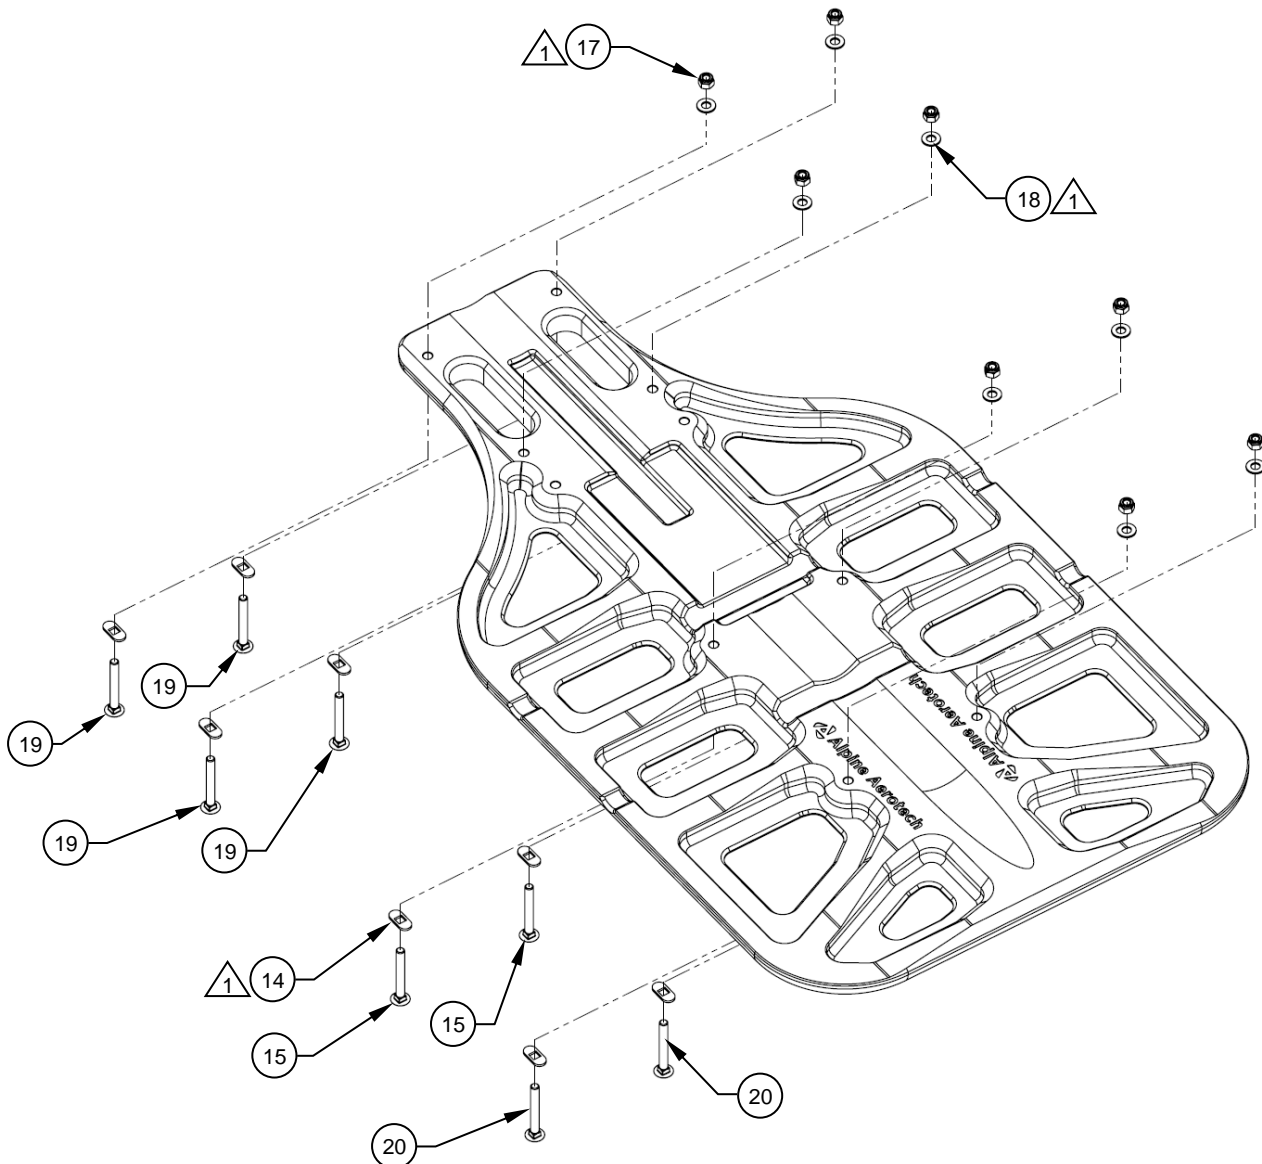

Figure 10
1. For the Cap, Assy AFT of the saddle fitting, use Carriage, Bolt (Item 15) in both holes. For the AFT most Cap, Assy position use Carriage, Bolt (Item 20) in both holes. Reference Figure 10.